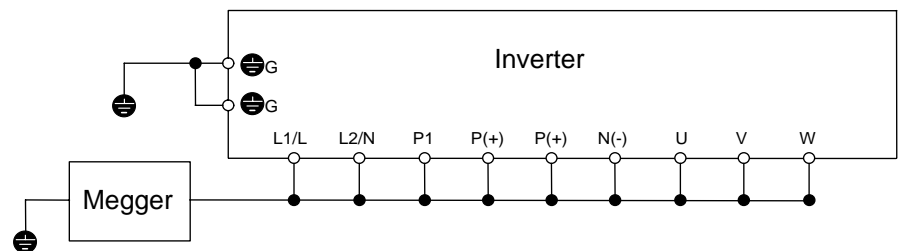

Figure 8-4-1 Megger Test
3. Connect the main circuit terminals using common wires as shown in Figure 8-4-1